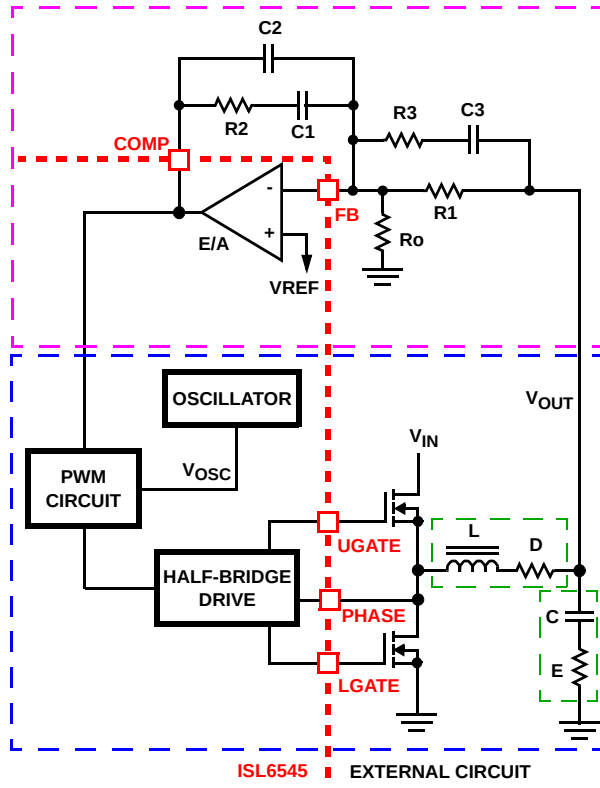

FIGURE 9. VOLTAGE-MODE BUCK CONVERTER
This section highlights the design consideration for a voltage-mode controller requiring external compensation. To address a broad range of applications, a type-3 feedback network is recommended, as shown in the top part of Figure 9.
Figure 9 also highlights the voltage-mode control loop for a synchronous-rectified buck converter, applicable to the ISL6545 circuit. The output voltage ( $V_{OUT}$ ) is regulated to the reference voltage,  $V_{REF}$ . The error amplifier output (COMP pin voltage) is compared with the oscillator (OSC) modified sawtooth wave to provide a pulse-width modulated wave with an amplitude of  $V_{IN}$  at the PHASE node. The PWM wave is smoothed by the output filter (L and C). The output filter capacitor bank's equivalent series resistance is represented by the series resistor E.
The compensation network consists of the error amplifier (internal to the ISL6545) and the external R1-R3, C1-C3 components. The goal of the compensation network is to provide a closed loop transfer function with high 0dB crossing frequency ( $F_0$ ; typically 0.1 to 0.3 of  $F_{SW}$ ) and adequate phase margin (better than 45°). Phase margin is the difference between the closed loop phase at  $F_{0dB}$  and 180°. The equations that follow relate the compensation network's poles, zeros and gain to the components (R1, R2, R3, C1, C2, and C3) in Figure 9. Use the following guidelines for locating the poles and zeros of the compensation network:
4. Select a value for R1 (1kΩ to 5kΩ, typically). Calculate value for R2 for desired converter bandwidth ( $F_0$ ). If setting the output voltage via an offset resistor connected to the FB pin,  $R_o$  in Figure 9, the design procedure can be followed as presented.